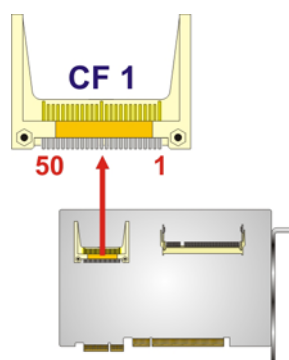

Figure 3-7: CF Card Socket Location
- CN Location:** See Figure 3-7